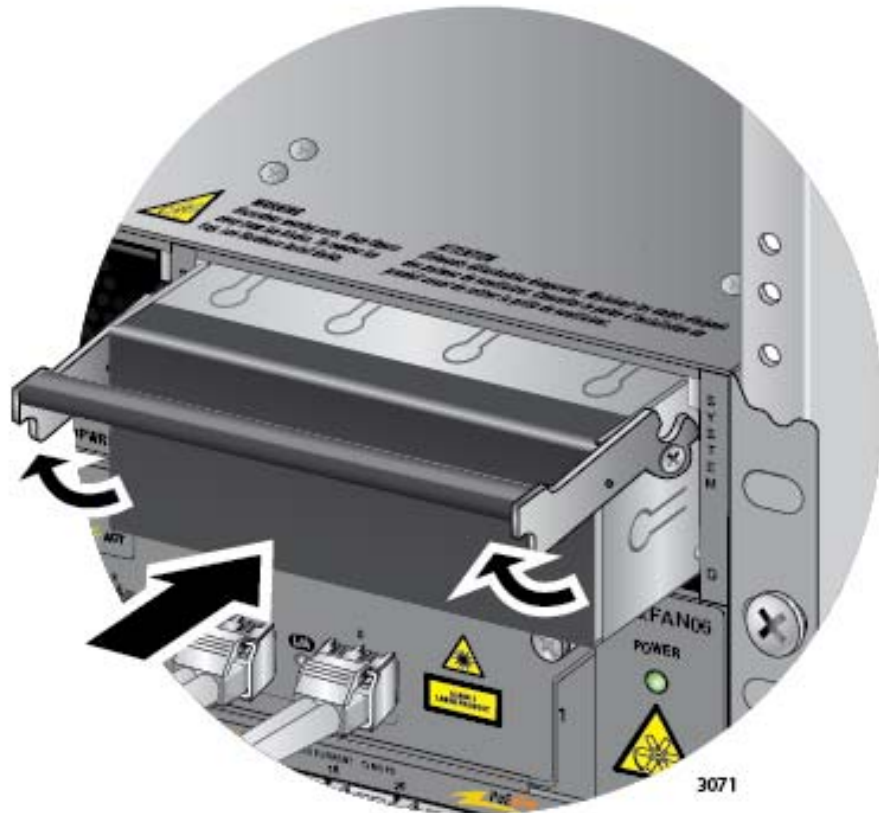

Figure 169. Installing a Blank Power Supply Slot Cover
5. Place the locking handle on the slot cover in the up position and slide the cover into the empty power supply slot. Refer to Figure 169 on page 284.